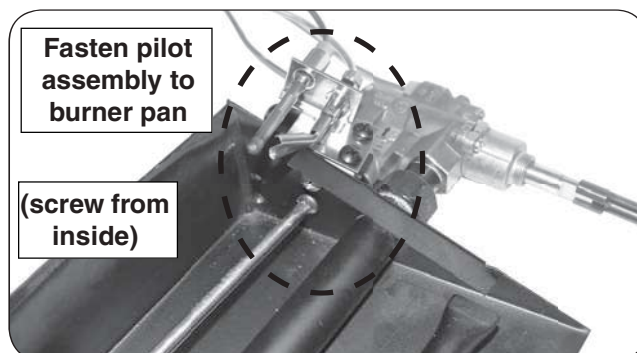
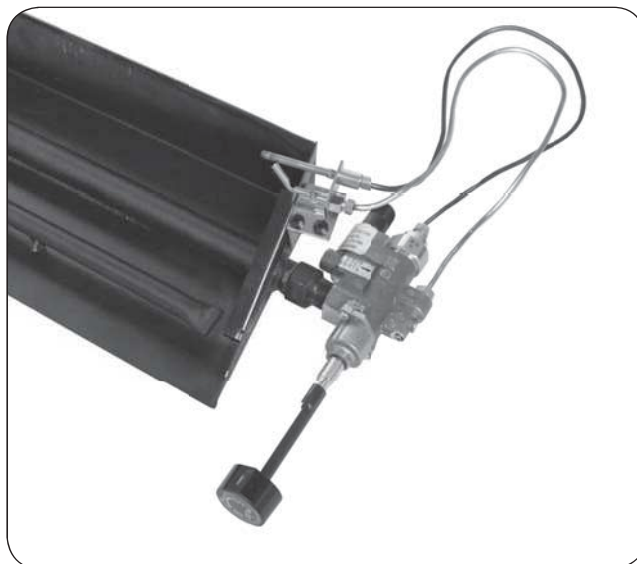

Fig. 6-2 Install pilot assembly
Fig. 6-3 Proper tube & lead orientation
1. The pilot assembly comes with two Phillips screws installed on the long side of the pilot bracket. Remove the screws and use them to fasten the pilot assembly to the burner pan using the pre-drilled holes in the pan (see Fig. 6-2 and Fig. 6-3).
2. The valve is shipped with the pilot supply tube and thermocouple lead bent in an ideal manner to prevent damage / unsafe operation, and to allow for proper heat shield placement. Maintain this orientation at all times (reference Fig. 6-3).